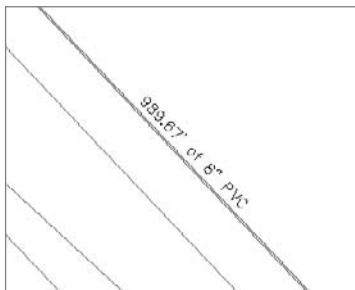

Figure A.113
8. At the **Specify label location on pipe:** prompt, click anywhere on one of the middle pipes. A label will appear that lists the combined length of all five pipes, as shown in Figure A.113.